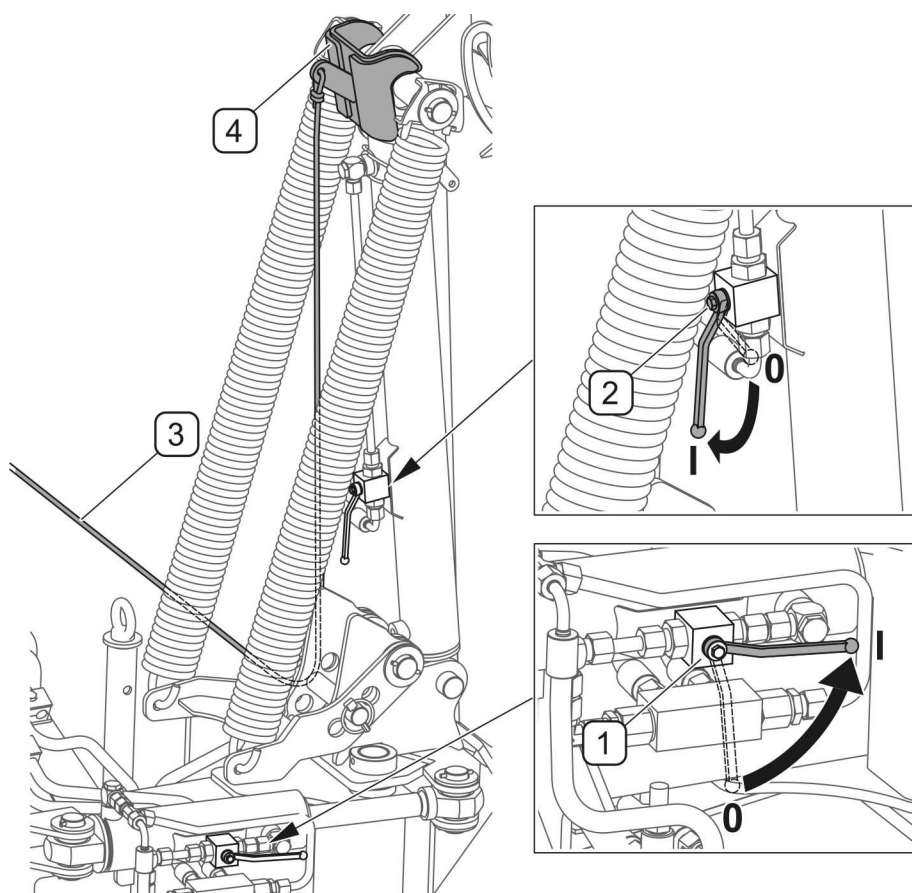

FIG. 4.6A Setting mower in working position
- Set the tipping and lifting cylinders valves and (2) in open position „I” (FIG. 4.6A),